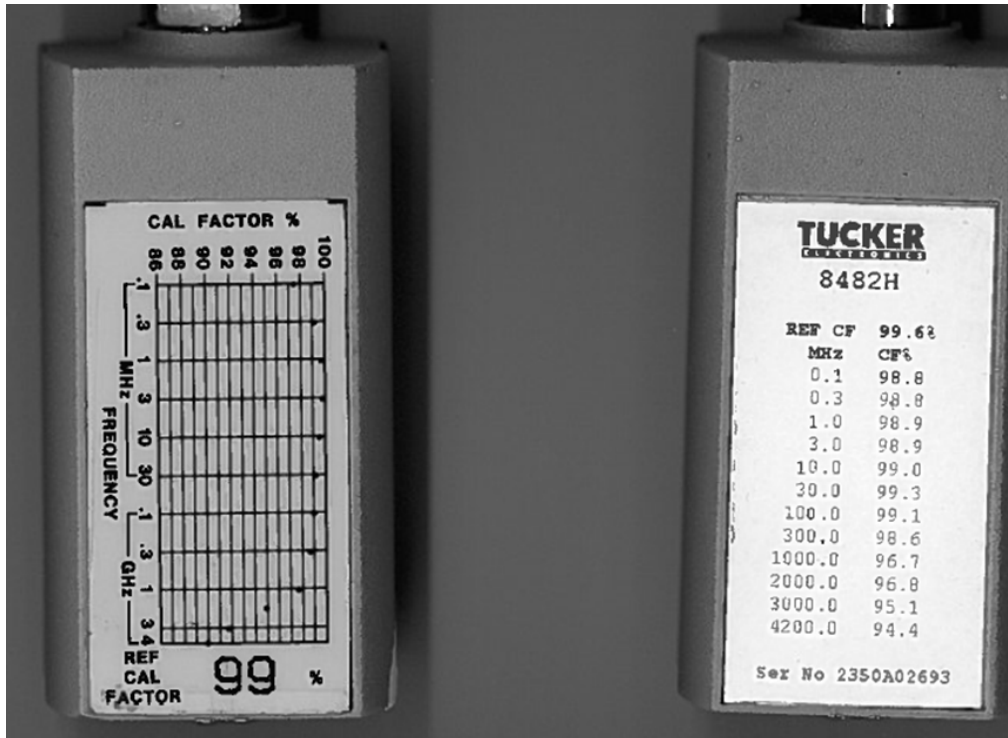

Figure 1: Power Sensors with Cal Factor (CF) Data
Fig. 1 Power sensors with Cal Factor (CF) data. CF as low as 90% is shown. For frequencies not enumerated, use straight-line interpolation of adjacent data. If your measurement frequency is not enumerated or between data provided, you are using the wrong sensor.